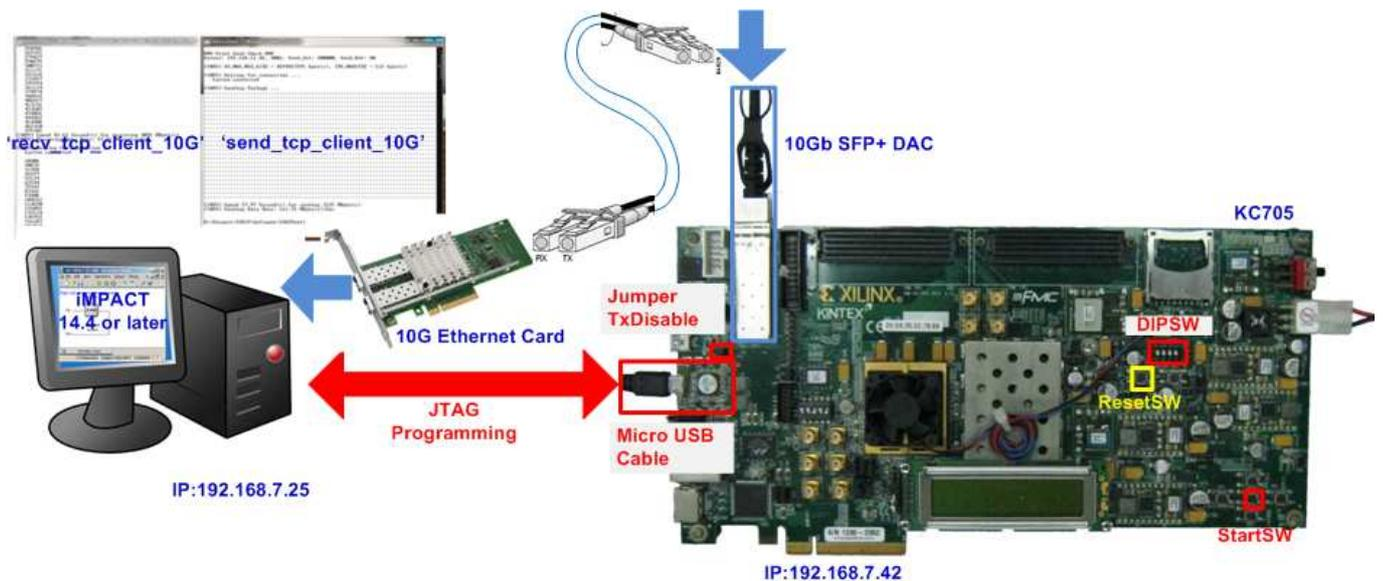
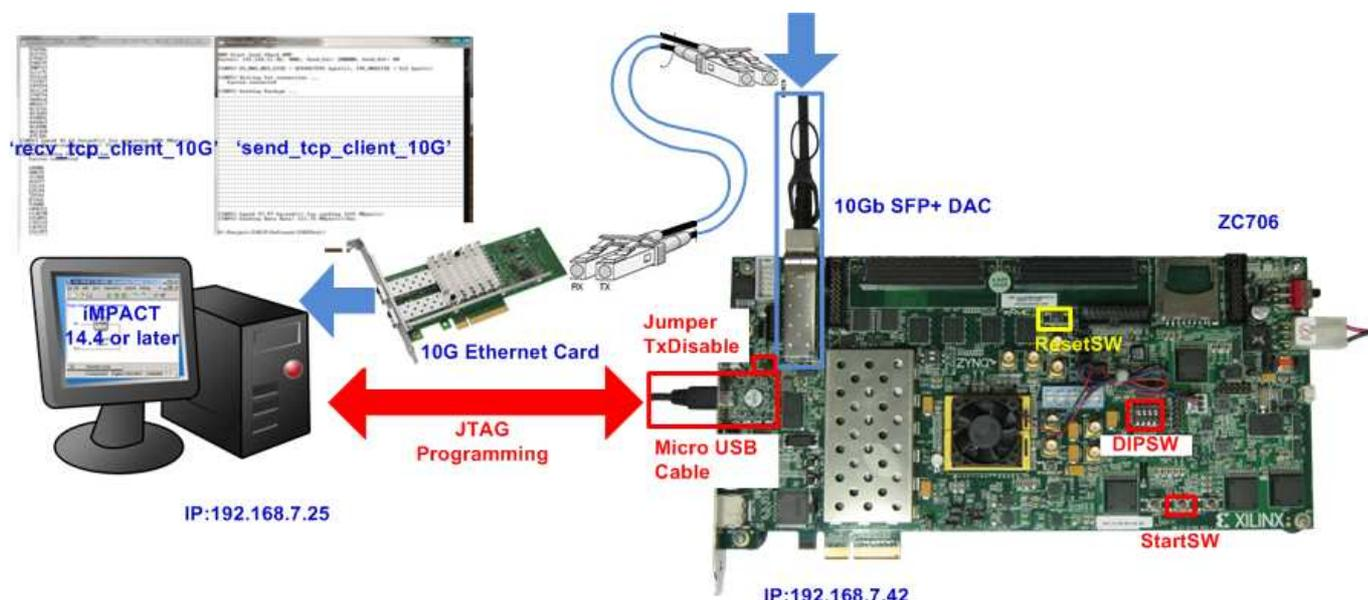

Figure 1 TOE10G-IP Demo Environment Setup on KC705
Figure 3 TOE10G-IP Demo Environment Setup on ZC706
As shown in Figure 1 - Figure 3, to run TOE10G-IP standard demo, please prepare
- Press StartSW at Center-SW as shown in Figure 1 - Figure 3 to initialize parameter in system, and then LED0 will turn on, as shown in Figure 14 and Figure 15 following DIPSW[1] setting.